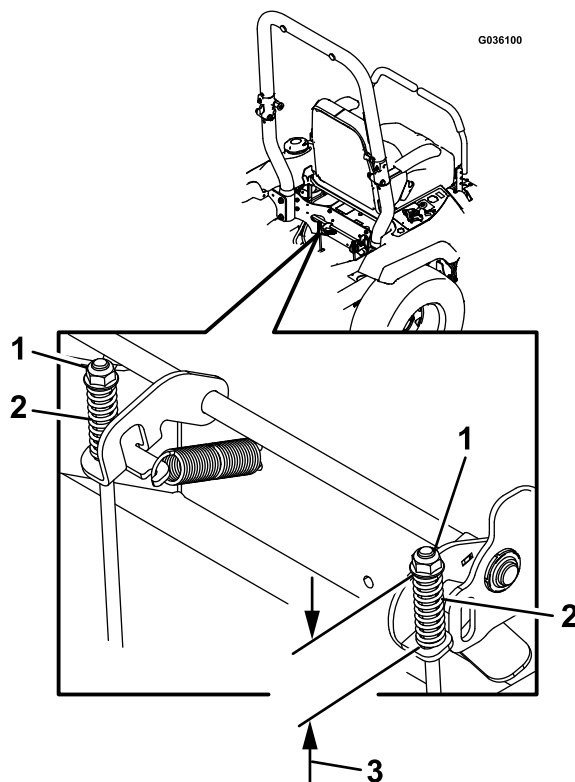

Figure 62
7. Check both spring lengths as shown in Figure 62. If an adjustment is necessary, turn the top nut clockwise to shorten the spring and counterclockwise to lengthen it.